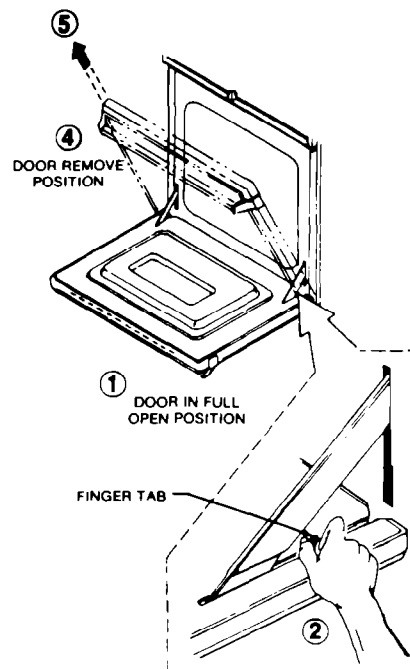

Fig. 1
A. To Remove Doors (See Fig. 1) Use caution! Oven door is heavy.
C. Reinstall The Door(s) (See Fig. 1)